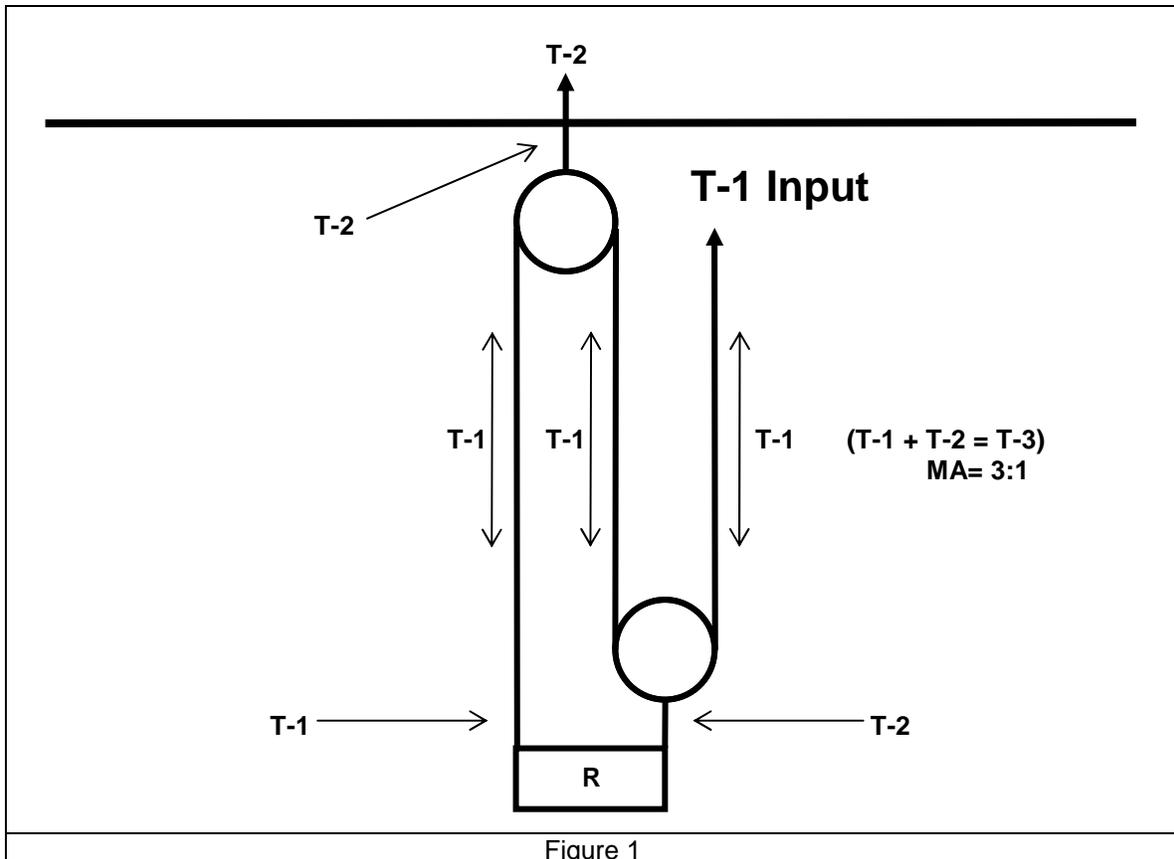

Figure 1: A Simple 3:1 System
- This is the same simple 3:1 system from Figure 1, but this time rigged with a 3-wrap Prusik connecting the Traveling Pulley to the main line coming from the resistance (represented by the thin, diagonal line). This is consistent with standard practice in rescue applications.
- Ultimately, there is a T-2 force applied to the anchor and a T-3 force applied to the resistance, just as in Figure 1. ($T-2 + T-1 = T-3$; $MA = 3:1$)